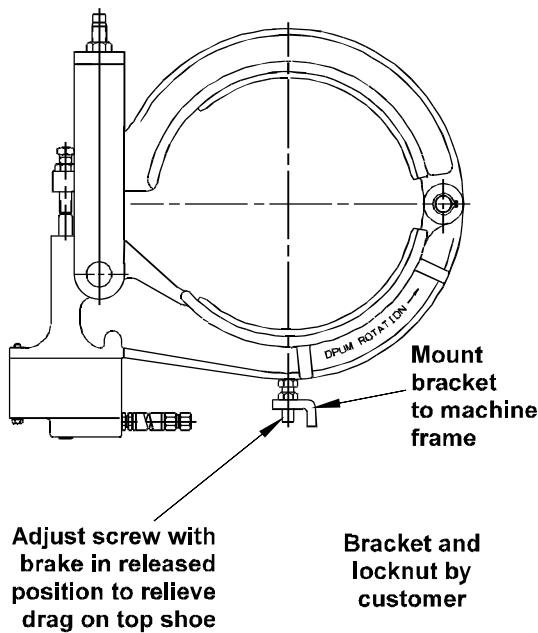

Figure 5 - Typical Off-Balance Brake Mounting
- 2.2.7 If an off-balance mounting as shown in Figure 5 is necessary, the top shoe may ride on the drum when the brake is released. To prevent shoe dragging, the bottom shoe must be supported with an adjustable device similar to that shown in the figure.